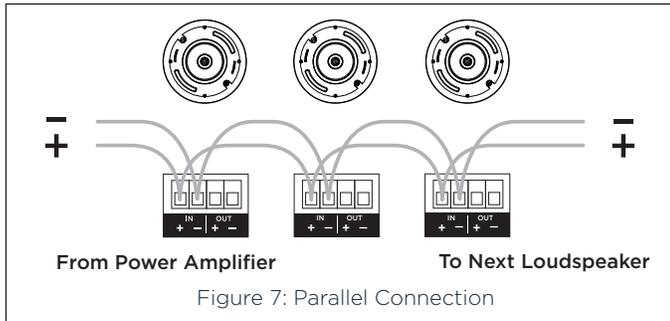

Figure 7: Parallel Connection
- When using multiple loudspeakers you can connect the loudspeakers either in parallel or in the loop through method as shown below (see Fig 7 and 8).